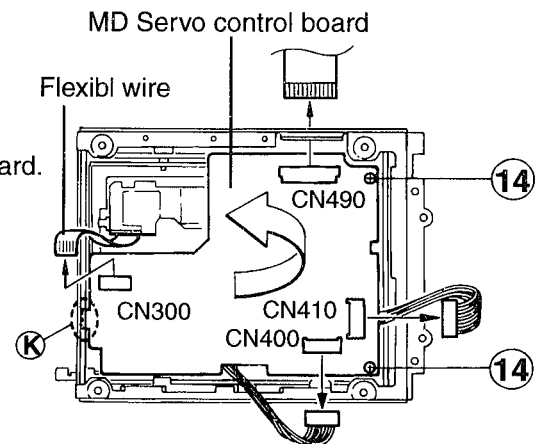
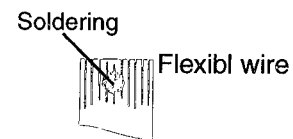

Fig. 15
Fig. 15b
■ Removing the MD Servo Control board (See Fig. 15)
2. Remove the two screws ⑭ retaining the MD Servo control board.
5. Before disconnect the flexibl wire from the connector CN300 on the MD Servo control board, solering the flexible wire like Figs. 15b .
6. Disconnect the flexible wire from the connector CN300 on the MD Servo control board.(See Fig. 15b)